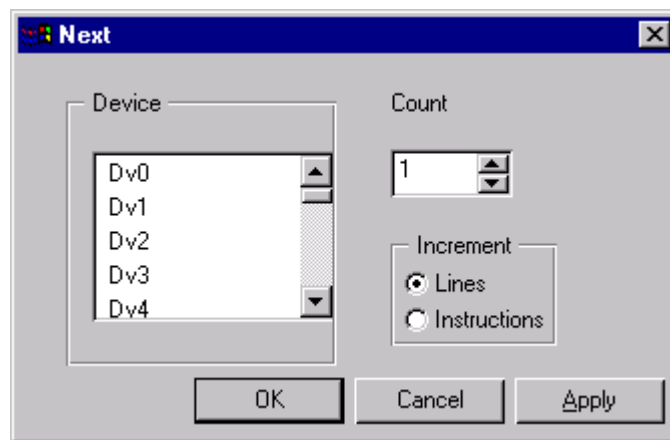

Figure 3-4. Executing the Next Program Instruction
1. From the **Execute** menu choose **Next**. The dialog box in Figure 3-4 appears.